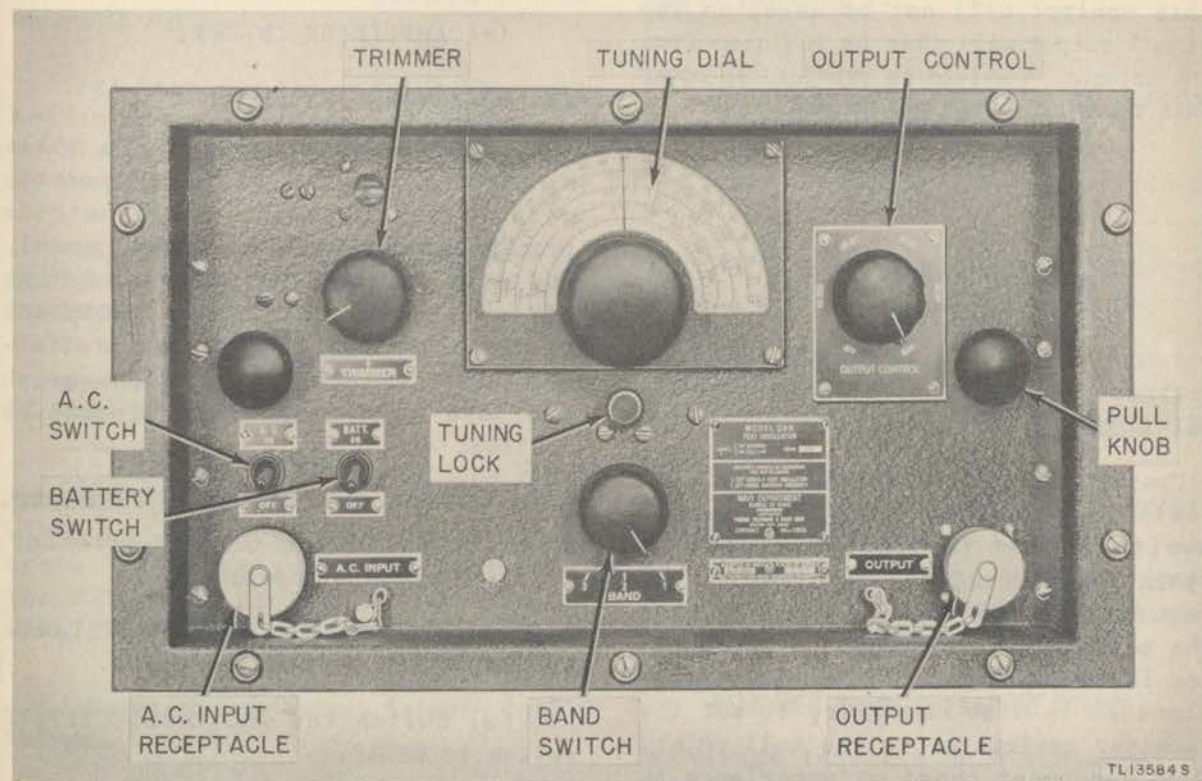

Figure 43. OAN test oscillator panel controls.
25. MODEL OAN TEST OSCILLATOR (fig. 43).